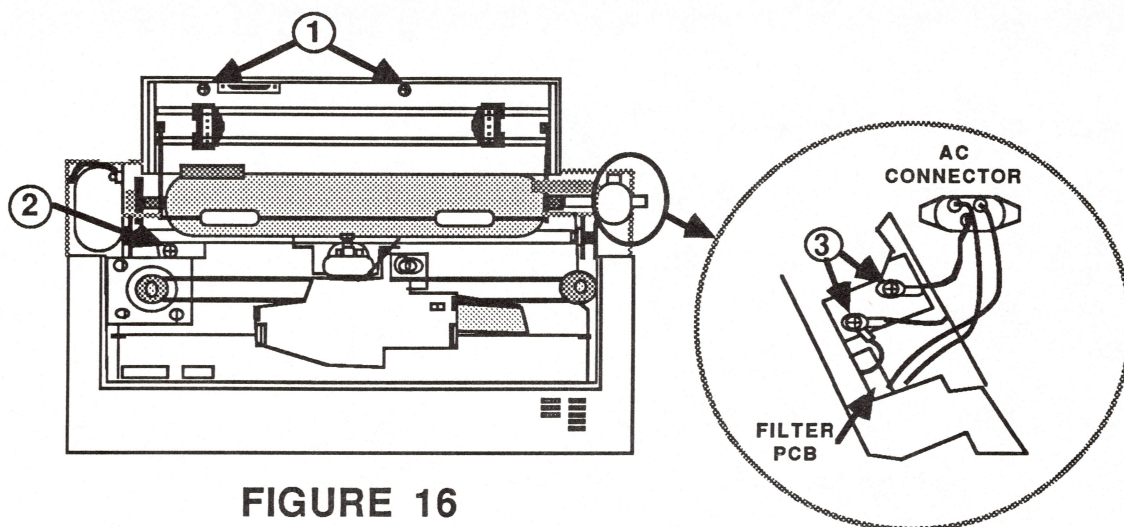

FIGURE 16
4. Remove the two screws located under the tractor cover, pictured in Figure 16, #1.
5. Remove the grounding connector from the spade on the drive PCB (see Figure 16, #2).
6. Remove the two grounding screws located in the right support leg (see Figure 16, #3).